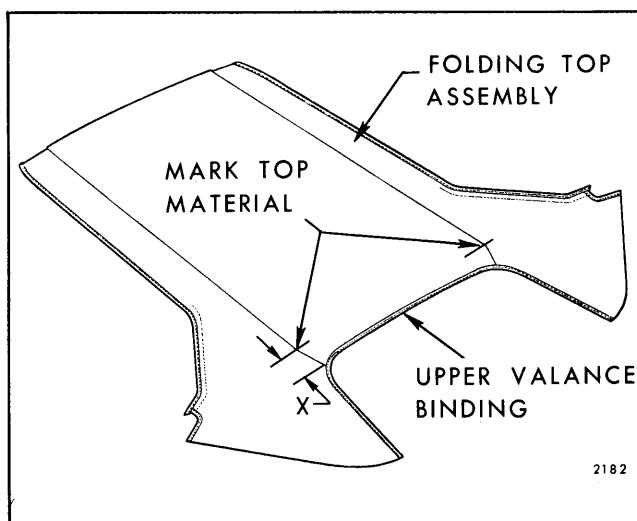

Fig. 13-34—Marking Top Material
3. Using a pencil, mark top material (mark should be approximately 1/2" in length) at deck seam 5-1/4" on "B, C & F" and 5-3/8" on "A and 4" on "Z" Styles from edge of top material upper valance binding. (See dimension "X" in Fig. 13-34.)